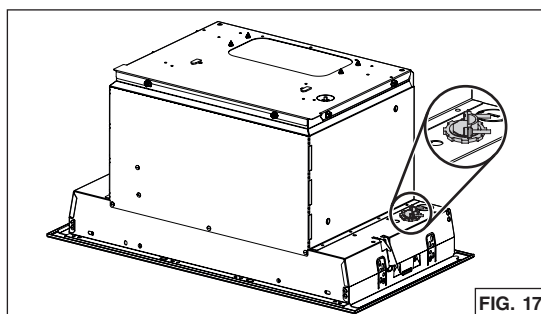

FIG. 17
4. Punch out **one** of the two knock-out holes. Install an appropriate 7/8" diameter strain relief (not included, grey part in FIG. 17).